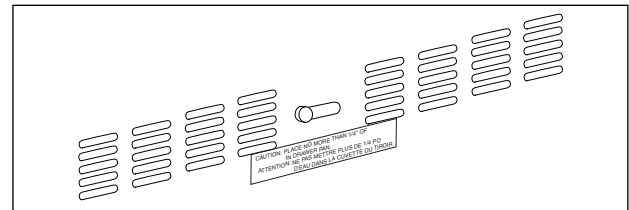

Figure 9. Drawer Vents
5. Adjust the drawer vents for desired humidity control by sliding the locking knob on the drawer front. See Figure 9. Opening the vents all the way allows maximum moisture to escape.